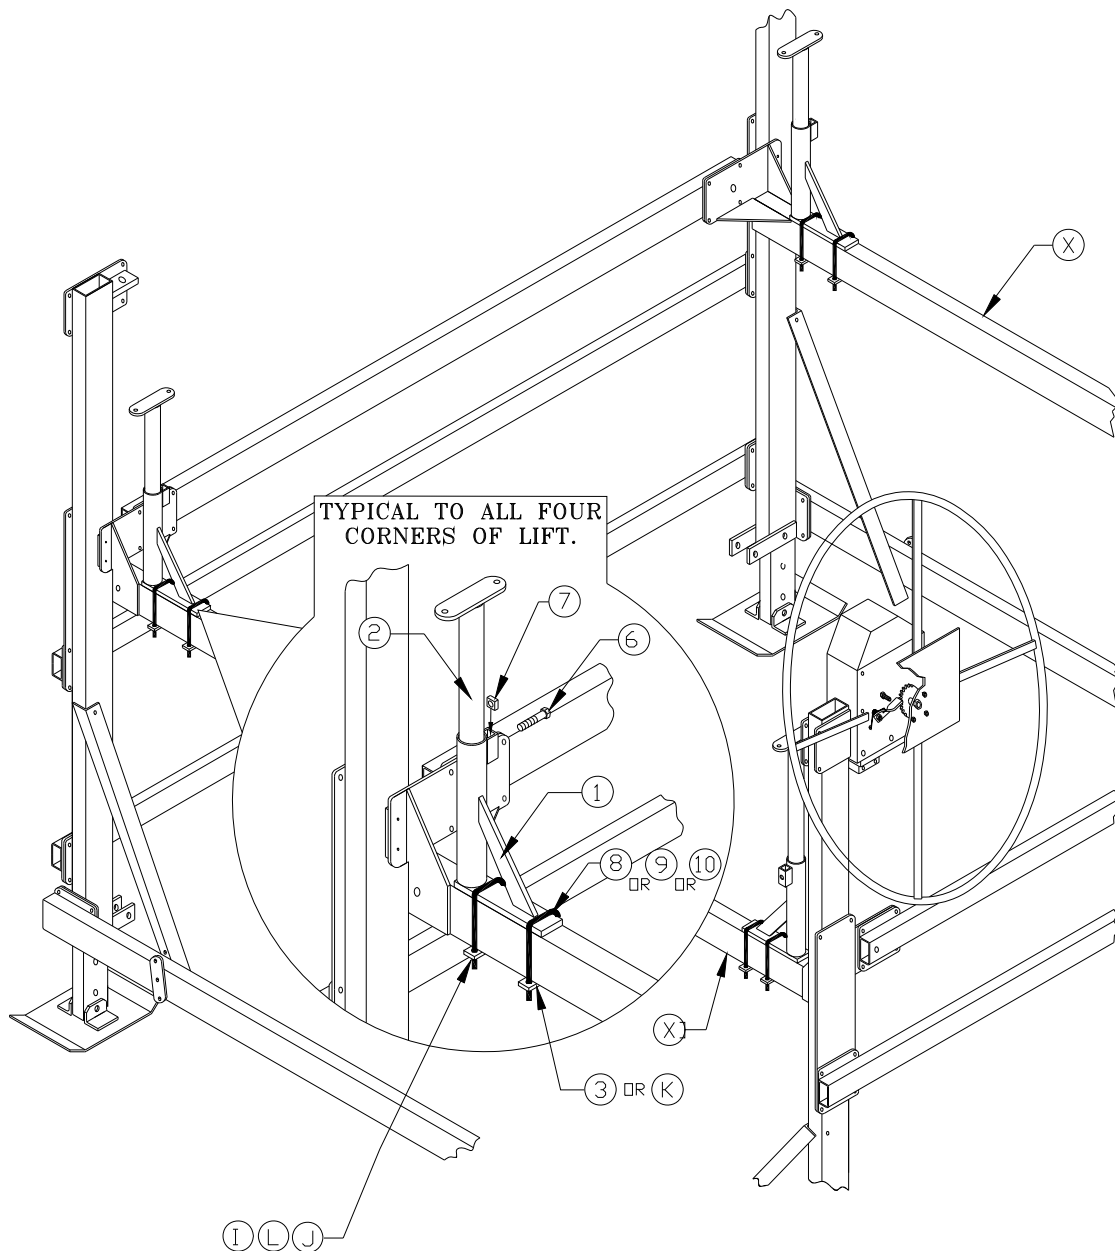
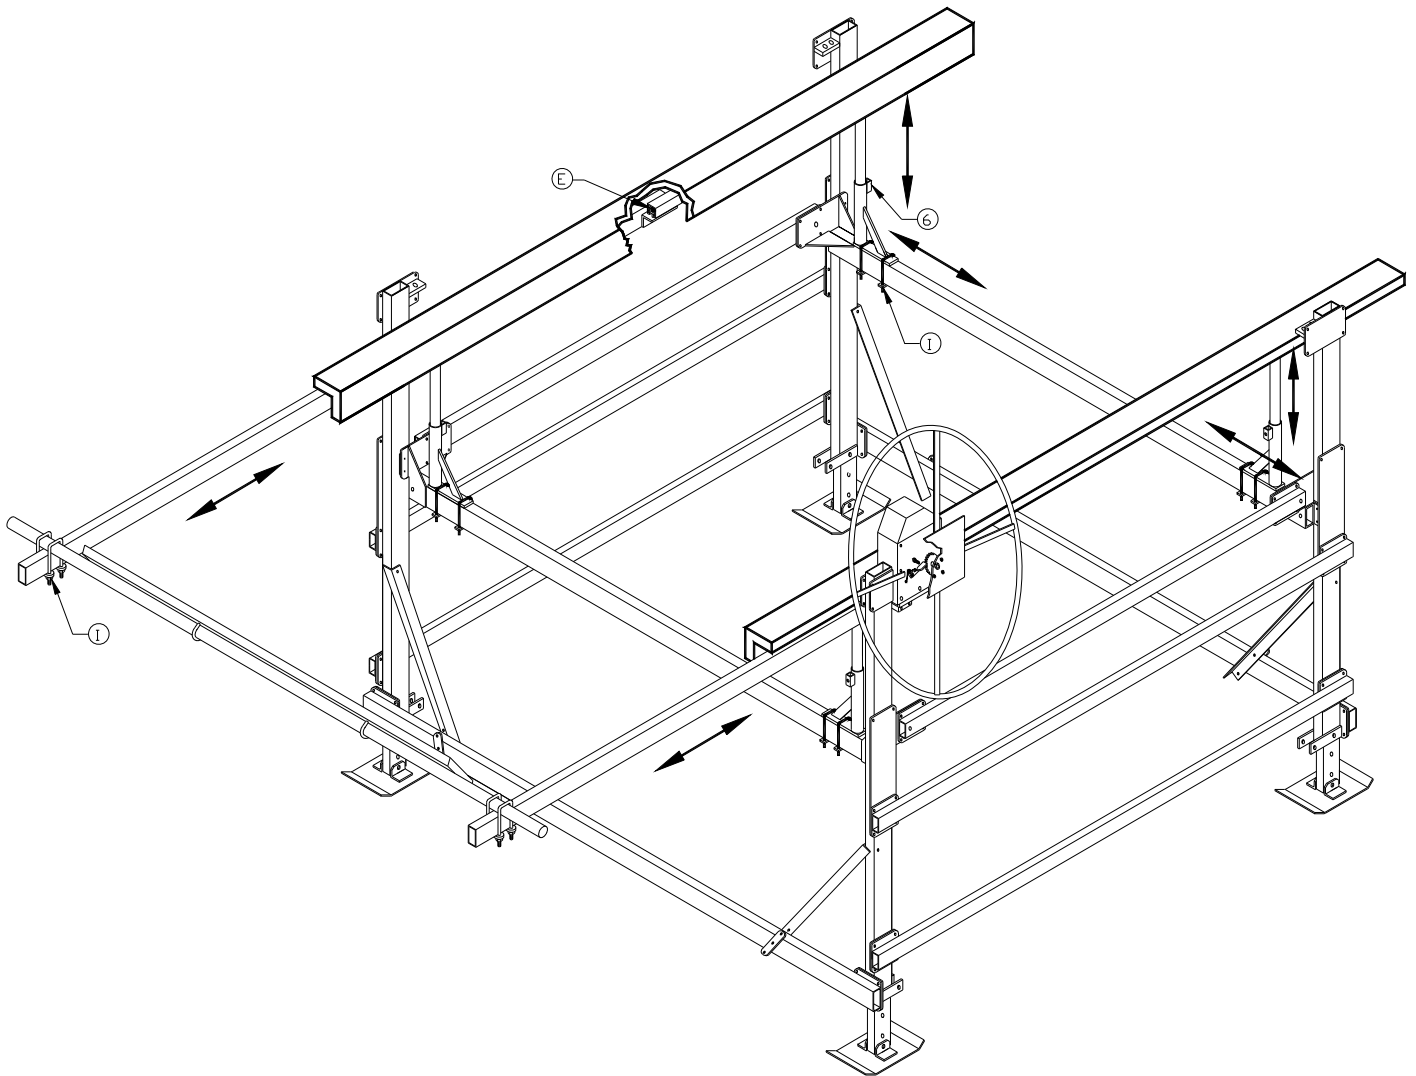

Figure 2-1.
Figure 2-5.
The part reference letters used in the subassembly drawings of sections 2.3 through 2.7 are the same as those shown in Figure 2-1 through Figure 2-5 and listed in the parts lists of Chapter 4.
1. (Refer to Figure 2-1) Position a VL Guide On Support (1), on the Load Tube (X), with the diagonal brace facing the center of the Load Tube. Insert two 3/8” square bend u-bolts (8,9, or 10), one over the end of the support mounting plate and, the other square bend u-bolt is then inserted through the triangular space closest to the round support tube. Place a Clamp (3 or K), onto each u-bolt and loosely attach a 3/8” flat washer (J), then a 3/8” lock washer (L), and finally a 3/8” hex nut (I), to each side of both u-bolts. **(DO NOT TIGHTEN AT THIS TIME).**
2. Position a VL Guide On Upper Tube assembly (2), inside the VL Guide On Support tube. Insert a 1/2” square nut (7), into the square housing on the support assembly. Hold nut in place by threading a 1/2” Hex Head Cap Screw (HHCS) (6). **(DO NOT TIGHTEN AT THIS TIME).** Repeat steps one and two for the other three support assemblies.
1. (Refer to Figure 2-5) Loosen u-bolt nuts (I) on load tubes and at cross tube to adjust distance between Wood Guide Ons, to best suit boat width and wave conditions. Retighten only the load tube nuts at this time.